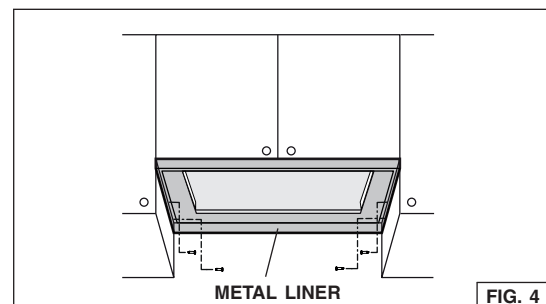

FIG. 4
3. Secure the liner (Fig. 4) using 4 mounting screws (included with the liner).